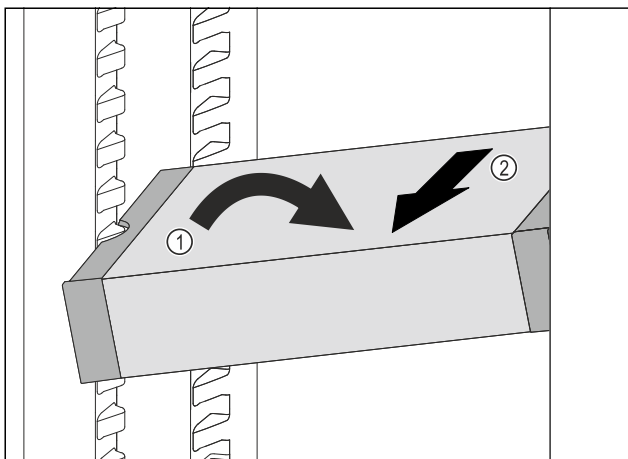

Fig. 177
- Set VarioSafe in refrigerator compartment at an angle. Fig. 177 (1)
- Take VarioSafe out to the front. Fig. 177 (2)